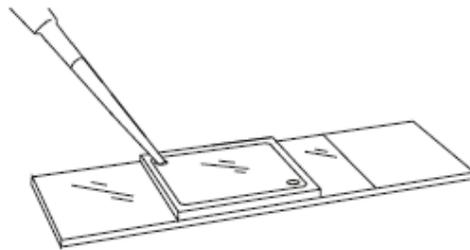

Figure 4
1. As shown in Figure 4, pipet reagent solution through one port on the chamber surface while allowing air to escape through the other port.